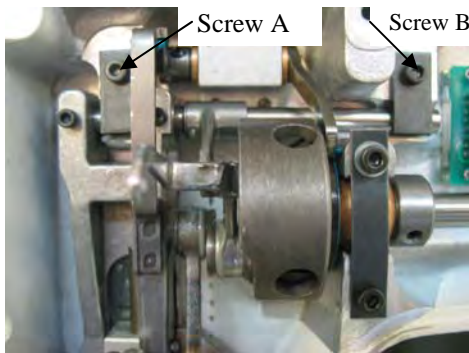

Figure 8.2
- Loosen screws A and B in figure 8.2. **(3mm handle allen)**
- Tighten screws A and B in figure 8.2. **(Note: If needle position changes, repeat the process.)**